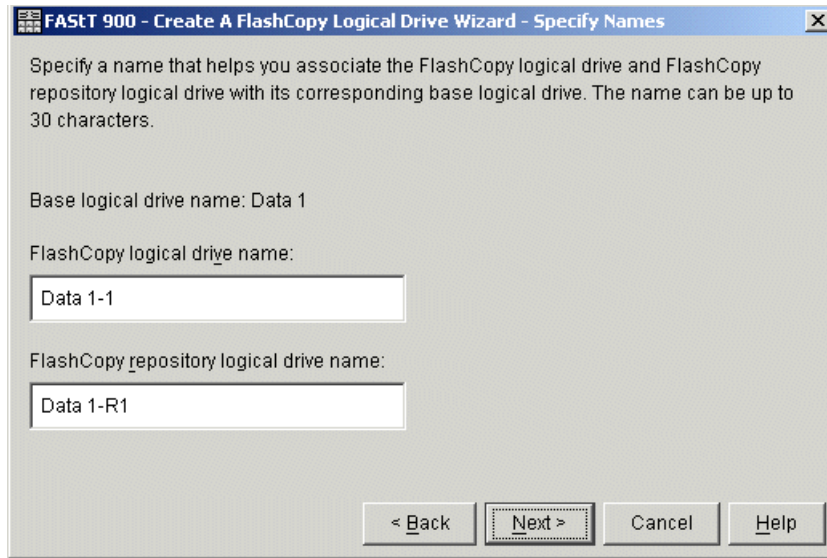
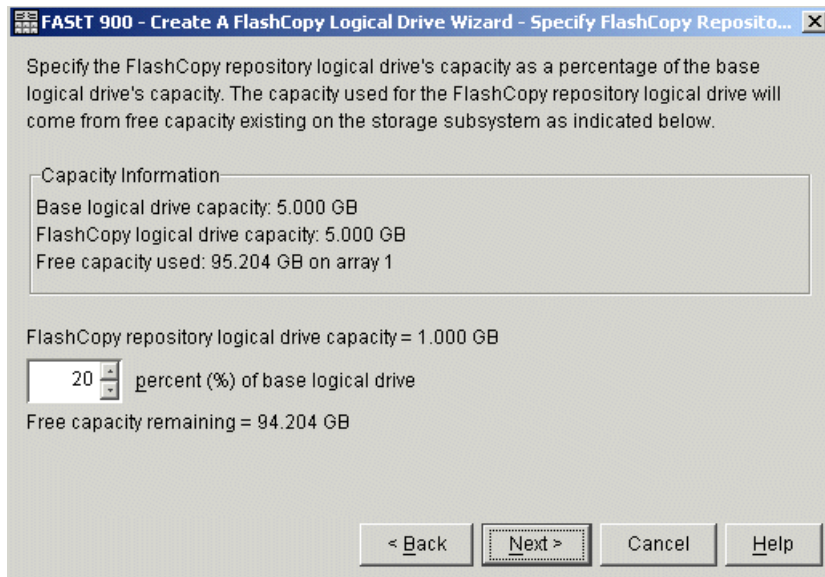
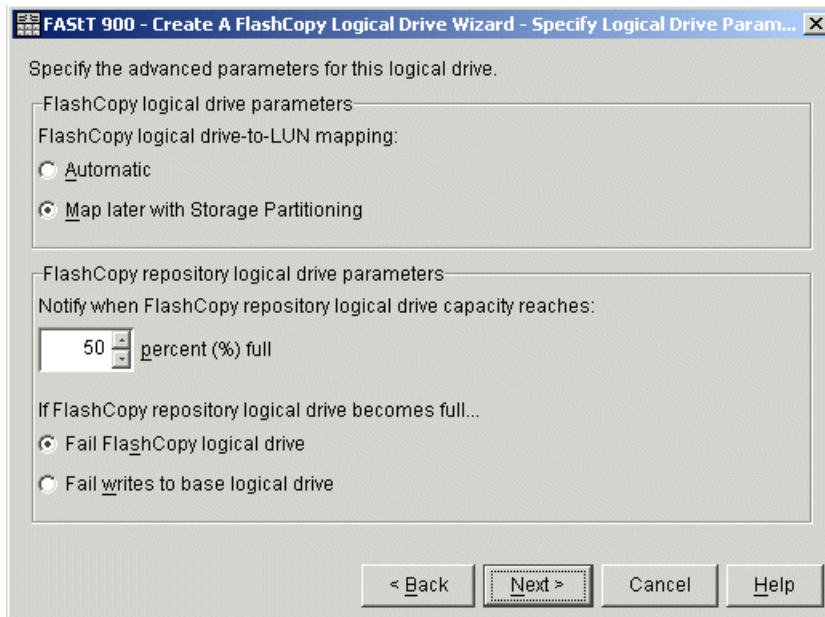
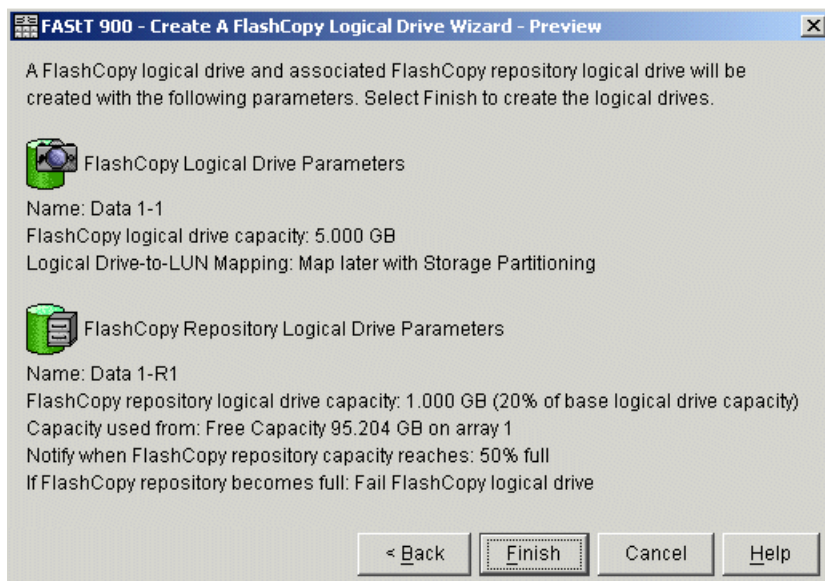

Figure 7-12 Create FC Logical Drive Wizard - Specify Names
Figure 7-13 Specify repository logical drive capacity
Figure 7-19 Create FlashCopy logical drive - Specify Parameters
Figure 7-20 Create FlashCopy Logical Drive Wizard - Preview
- i. The Specify Names panel is displayed. On the Specify Names panel (Figure 7-12 on page 208), you define the FlashCopy logical drive name and the name of its associated FlashCopy repository logical drive.
- ii. The next screen displayed is the Specify Repository Logical Drive Capacity. On the Specify FlashCopy Repository Logical Drive's Capacity window (Figure 7-13 on page 209), set the repository drive capacity as a percentage of the base logical drive's capacity. This defaults to 20 percent.
If you select Free Capacity on the same array as the base logical drive and click **Next**, The Specify Names panel opens as seen previously in Figure 7-12 on page 208. Check or specify new names for the associated volumes then click **Next**. Highlight the free capacity on the same array and click **Next** to continue. The Specify Repository Logical Drive Capacity window appears as seen in Figure 7-13 on page 209. Make any modifications and click **Next**. The Specify Logical Drive Parameters window (Figure 7-19 on page 213) opens. Define the FlashCopy logical drive-to-LUN mapping parameter and the FlashCopy repository logical drive full conditions. Click the **Next** button.
The Preview window (Figure 7-20) will open and show the FlashCopy and repository parameters. It allows you to click Back to return to the previous windows and edit the parameters or to click **Finish** to continue. Note there is more information regarding logical drive parameters than was displayed in the Preview window when the simple path was used.
The Specify names window appears as per Figure 7-12 on page 208. Choose names for the FlashCopy repository and logical drives or accept the defaults and select.
The next window is the Specify FlashCopy Repository Logical Drive Capacity as was seen in Figure 7-13 on page 209. Choose the percentage of Base Logical as the size for the repository logical drive or accept the default of 20 percent. Click **Next** to proceed to the Specify FlashCopy Repository Logical Drive Parameters window as was seen in Figure 7-19 on page 213. Select the appropriate parameters, click **Next** to proceed to the Preview window as per Figure 7-20 on page 213. Click **Finish** and then **OK** at the Complete message.
The Wizard then proceeds through the Specify Logical Drive Parameters window (Figure 7-19 on page 213). The Preview window and Complete messages are displayed, before returning to the Subsystem Management window.